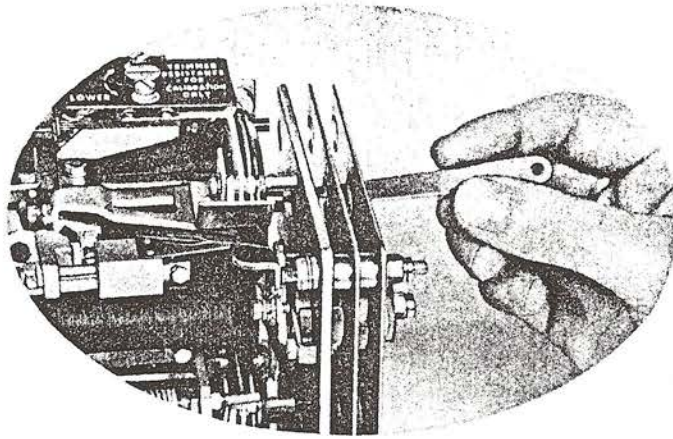

FIG. 4
- (1) Move the clapper by hand, until the magnet armature is right home, then release and note the time required for the dashpot plunger to return to the initial position. If the time is more than three seconds, there is foreign matter in the valve, which should be cleaned with the wire cleaner provided in the tool kit (see Fig.4).